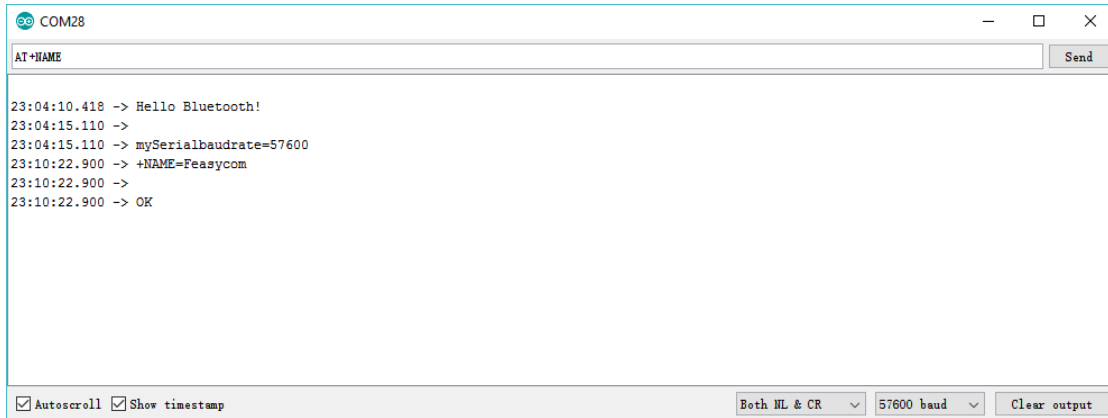

Figure 4. Send AT+NAME
2. Send "AT+NAME" command (Figure 4), it will return the name of the Bluetooth module and you can use your smartphone to scan nearby Bluetooth devices to check the name.